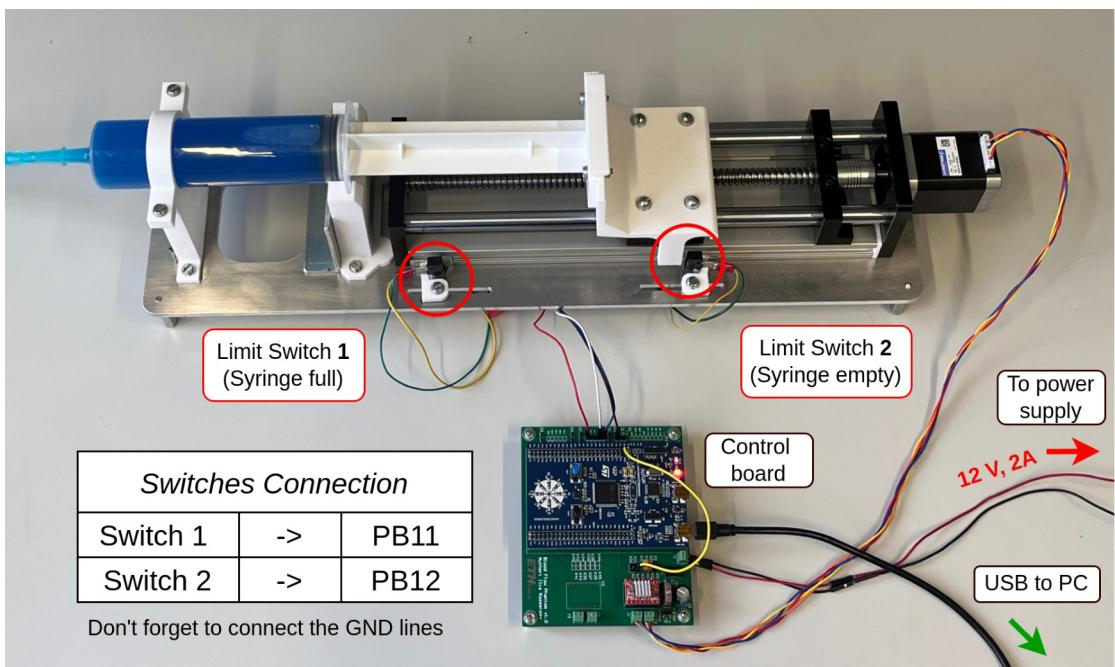
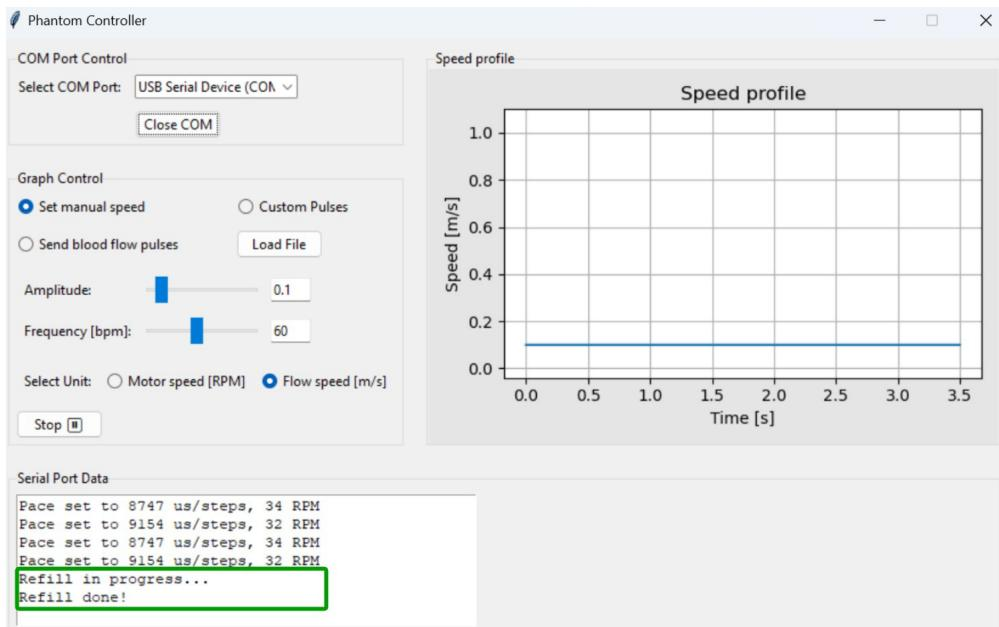

Figure 3.1: Connection of the Control Board to the Hydraulic Pump.
Figure 3.5: GUI showing the state when syringe refill is completed.
For visual guidance, please refer to Fig. 3.1.
1. Ensure that the control board is powered on by the lab supply and the USB cable is connected to the PC. Use the Fig. 3.1 for visual reference.
4. Manually press **Limit Switch 1** (refer to Fig. 3.1 for switch location). The system will enter the *Refill* state, and you will see *Refill in progress* in the *Serial Port Data* window (Fig. 3.5). The motor will move the syringe plunger backward, drawing the blood-mimicking fluid into the syringe.